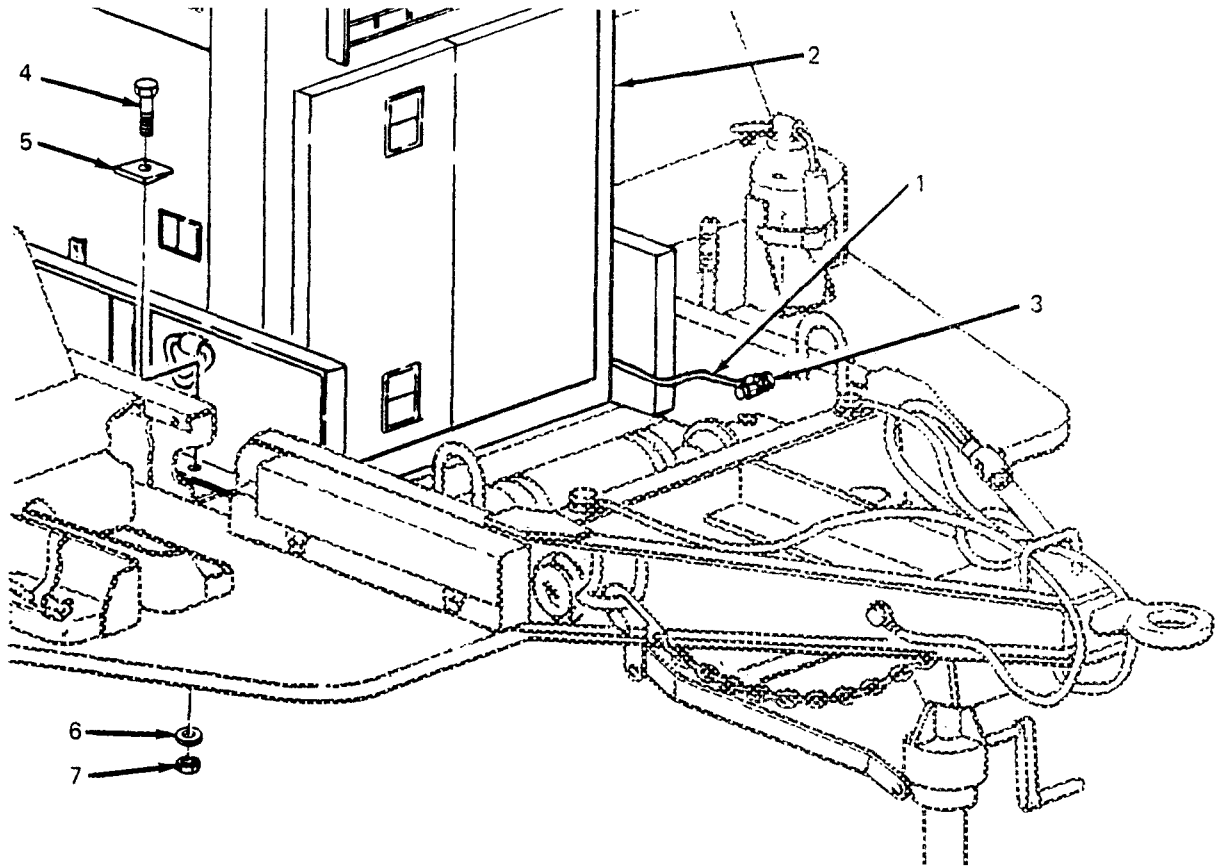

Figure 5-3. Detaching Generator Set from Trailer.
5-5. Generator Set Replacement. (See figures 5-3 and 5-4.)
- (1) Disconnect ground wire (1, figure 5-3) from generator set (2) to GROUND TERMINAL stud (3) on trailer.
- (3) Insert eight screws (4, figure 5-3) with beveled washers (5) down through generator set skids into railer.
- (4) Working under trailer, install one flat washer (6) and one nut (7) on each screw (4).
- (5) Position beveled washers (5) so that screw heads are parallel to tops of washers. While holding beveled washers in position, tighten hardware.
- (6) Connect generator set ground wire (1) to trailer GROUND TERMINAL stud (3).